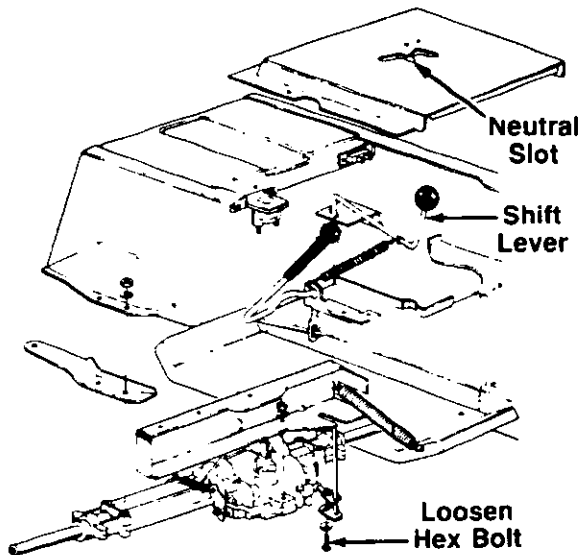

FIGURE 20.
2. Loosen the bolt which secures the shift lever assembly to the shift lever link. See figure 20.
3. Place the shift lever in the neutral slot. See figure 20.